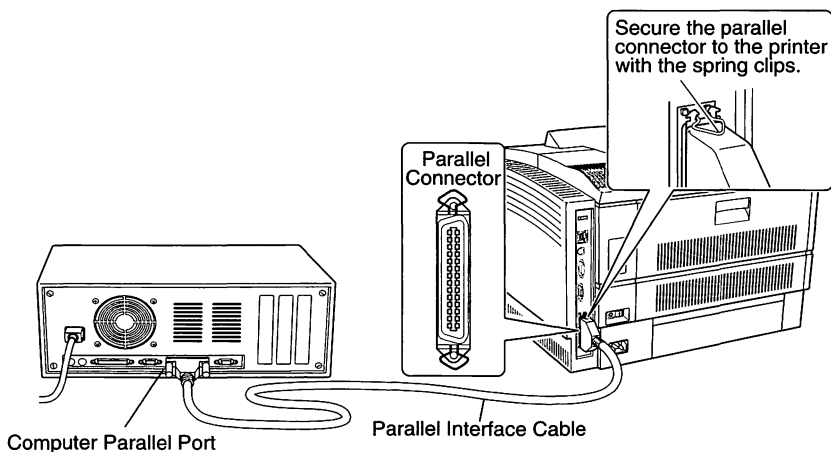

Figure 2. Parallel Port Connection
1. Attach the cable to the parallel port on the computer as shown in Figure 2.